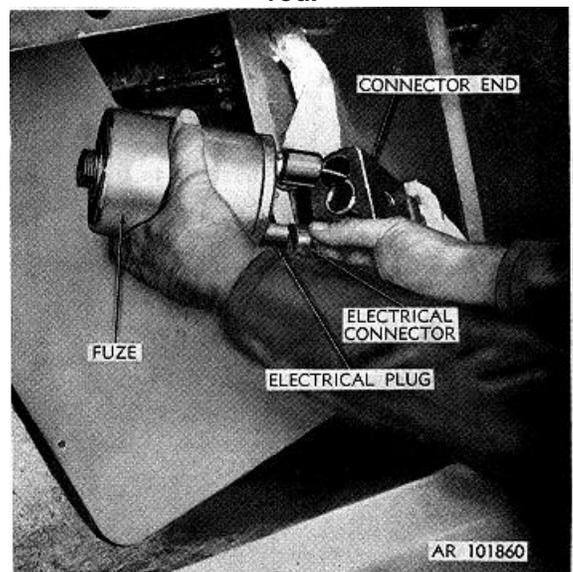

Figure 2-29. Connecting electrical connector to electrical plug.
g. Withdraw electrical connector from connector end of fuze holder an inch or two. Attach electrical connector to fuze electrical plug (fig. 2-29). Bring connector end of fuze holder and fuze together.